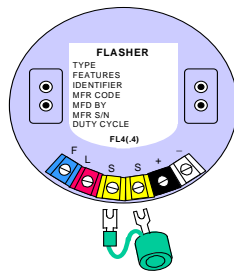

Figure 4-8
- f. Install the proper daylight control (if necessary) to the two yellow "S" terminals on the flasher (Note: the CG-504 flasher has an S/Sy terminal which is the same). The daylight control housing should go next to the "+" terminal, as shown in Figure 4-8.